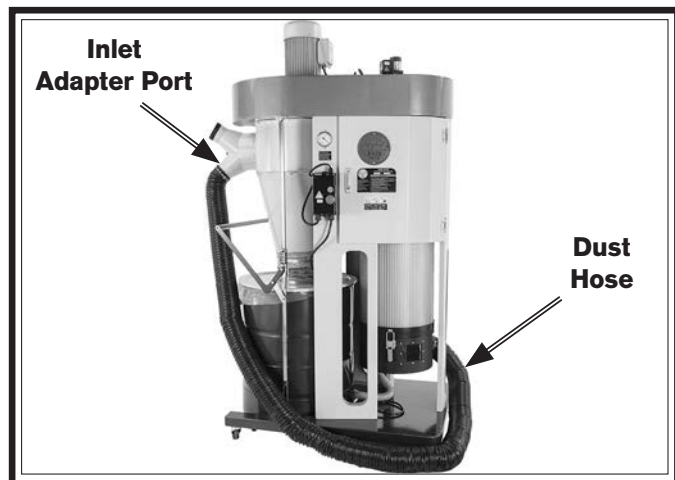

Figure 68. Dust hose connected to inlet adapter and end cap outlet port.
2. Replace end cap, then connect 4" dust hose to inlet adapter and end cap outlet port (see **Figure 68**).